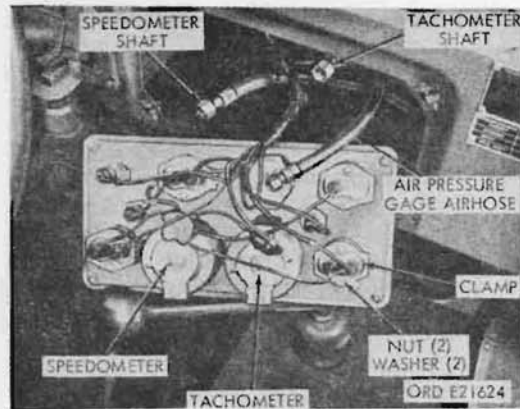

Figure 164. Instrument cluster, rear view - multifuel
- (1) The ammeter or battery-generator indicator, fuel gage, oil pressure gage, and water temperature gage are all replaced in the same manner. The air-type air pressure gage has an airhose connection instead of the electrical cable. Disconnect the airhose at the gage when the instrument cluster is removed.
- (2) Remove the instrument cluster (par. 125). Disconnect the hose or the electrical cable connectors from the gage to be replaced. Remove the two nuts and lockwashers at the back of the gage securing the gage to the clamp (fig. 164). Remove the gage and clamp from the instrument cluster panel.
Place the gage in the instrument cluster panel from the front. Install the clamp on the gage mounting studs and secure the assembly with lockwashers and nuts provided with the gage. Make hose or electrical cable connections (fig. 164 or 165). Install the instrument cluster (par. 125).
- (1) Removal. Remove the instrument cluster (par. 125). Disconnect the cable (fig. 164 or 165) from the back of the lampholder. Remove two screws and
- (2) **Installation.** Insert the lampholder from the back of the instrument cluster panel, and fasten to the panel with two round-head screws and lockwashers inserted from the front. Install the proper cable (fig. 164 or 165) on the back of the lampholder, and install the instrument cluster (par. 125).
Disconnect the flexible shaft from the speedometer (fig. 164 or 165). Remove two mounting nuts and lockwashers from the mounting clamp, and remove the speedometer from the front side of the instrument cluster panel.